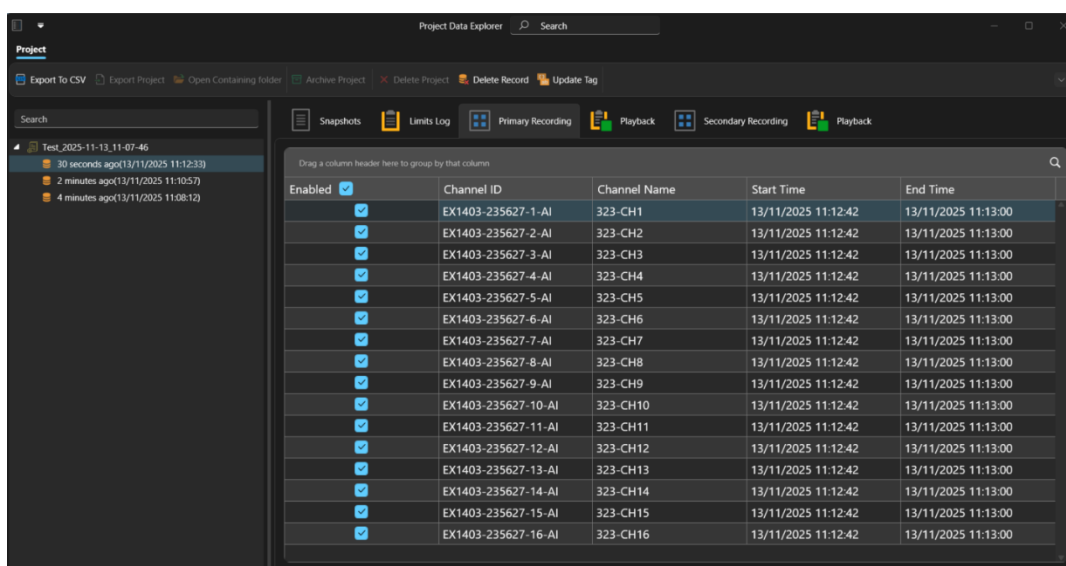

Figure 32. Data Explorer Screen
- On the **Data Explorer** screen (Figure 32), select the recording from the column that contains the project and its recording details.